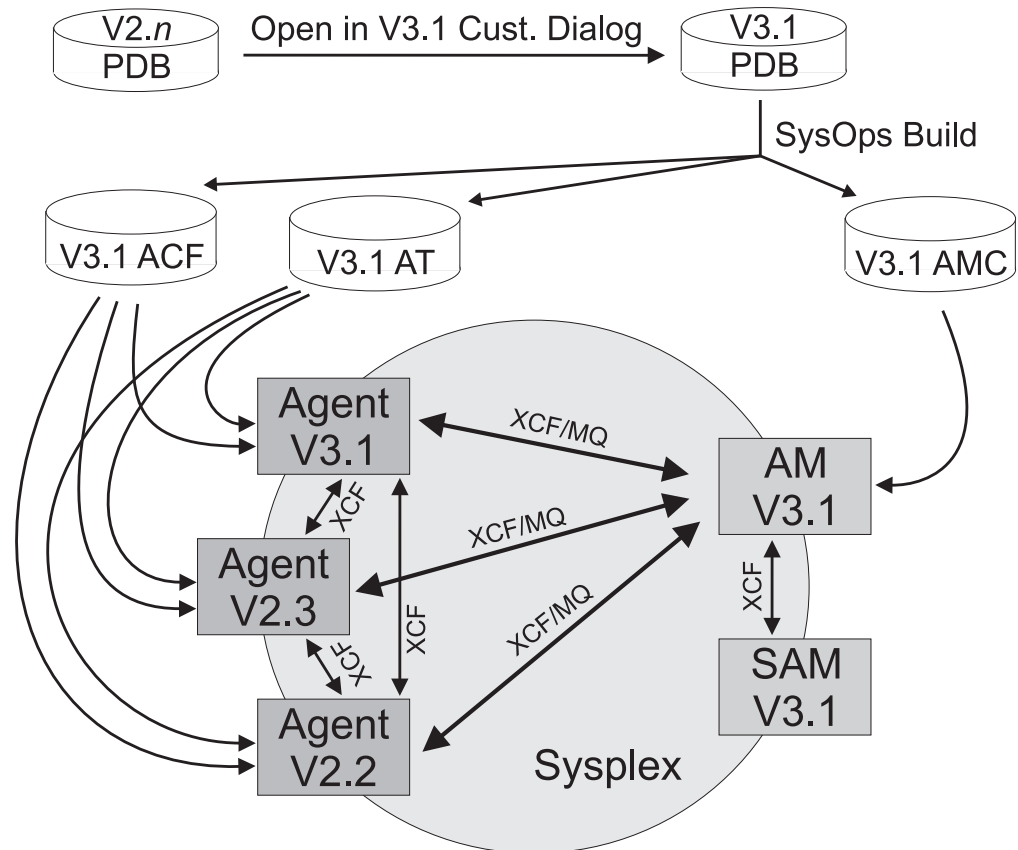

Figure 27. Coexistence of SA OS/390 2.2, SA z/OS 2.3, and SA z/OS 3.1
- SA z/OS 3.1 systems can coexist with SA z/OS 2.3 and SA OS/390 2.2 systems within the same sysplex. Figure 27 on page 223 illustrates this: it shows a